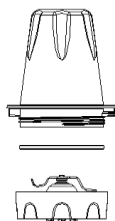

Fig 2
- Fill the grinder with proper coffee bean, then assemble the grinding blade and grinding bowl together. (Fig.2)